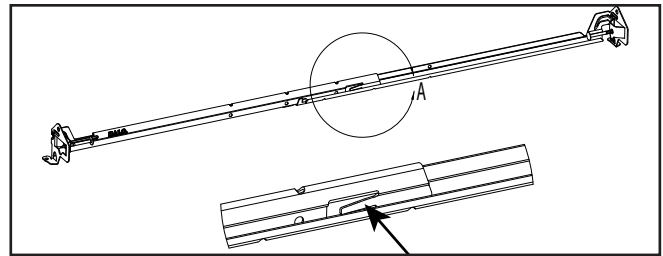
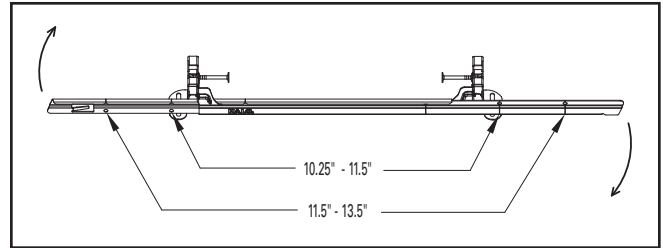

Figure 3.
Figure 4.
2. Bar Hangers may be shortened to fit 12" (30.5 cm) on center framing. Remove hanger bars from housing by depressing tab and sliding apart (Figure 3). Break off at score lines by bending in direction shown – no tools required. (Figure 4).